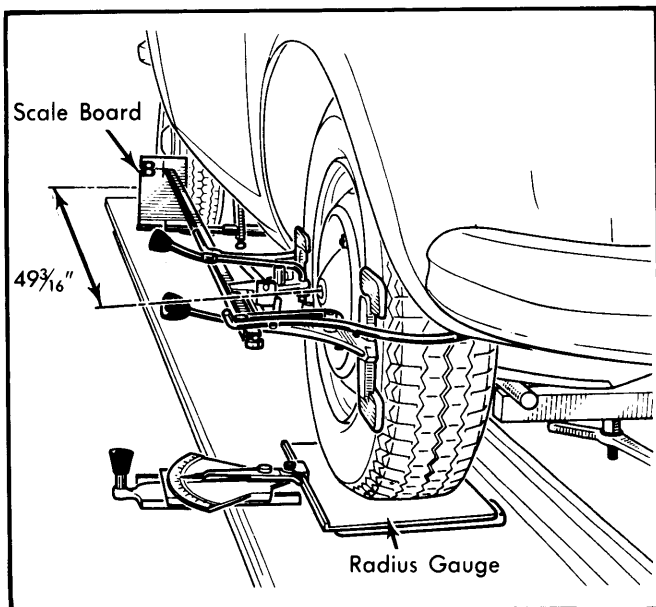

Fig. 1 Height Measurement Equipment Attached to Vehicle
2) Compress front axle with suitable tool (T. Av. 238-02) until top of tool is 1" (25 mm) for R-5, or $5\frac{1}{4}$ " (20 mm) for all others, below underside of lower member. Attach brackets of suitable height measurement tool (T.Vv. 246-01) under vehicle so that scale boards are $51\frac{3}{16}$ " (1.30 m) R-5, $49\frac{3}{16}$ " (1.25 m) all others, from center of front wheels (See Fig. 1).